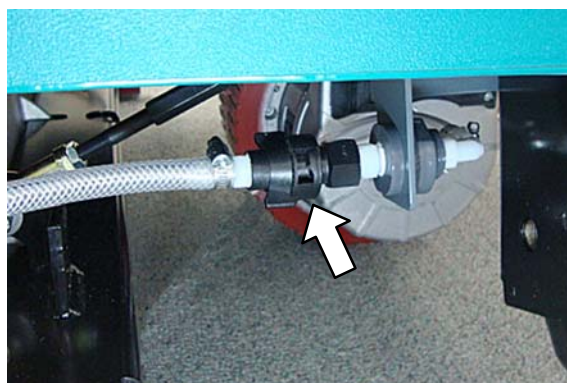

Fig. 40
3. Connect the quick disconnect connector from the *ec*-H₂O pump assembly as shown (Figure 40).